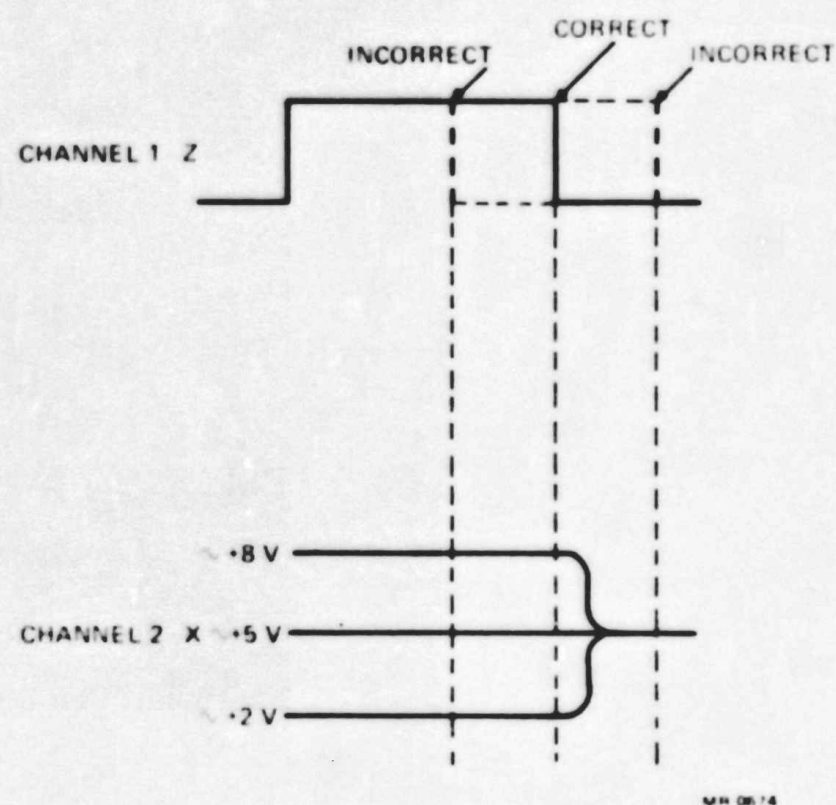

Figure 6-2 Z-Pulse Adjustment
10. Adjust the appropriate Z-delay potentiometer to position the trailing edge of the Z pulse as far to the right as possible in the flat portion of the X signal. (Refer to Figure 6-2.)